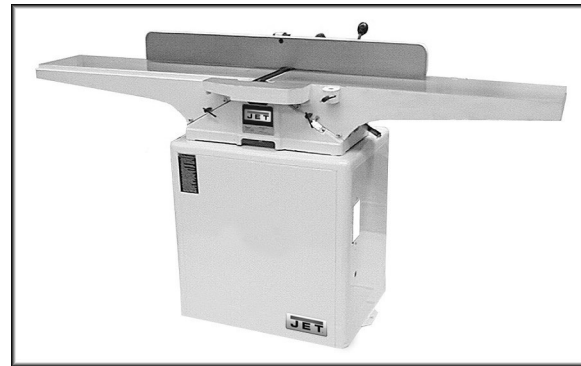

Figure 1
1. Use an assistant or hoist mechanism to place bed assembly on top of stand. Be sure identification label on the bed faces the same direction as the label on the stand (Fig. 1).